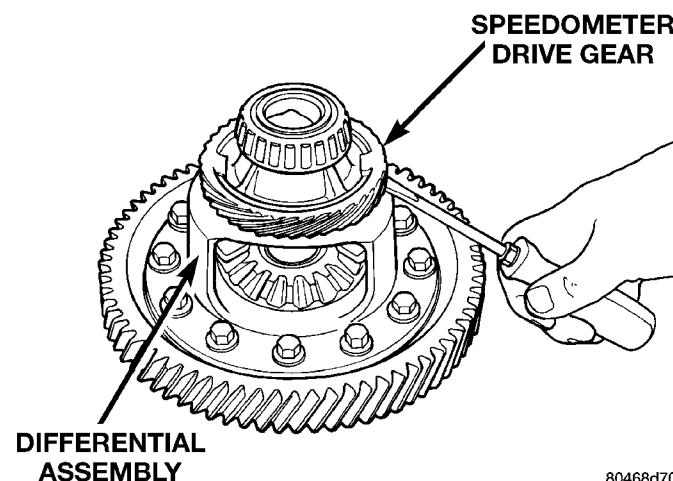
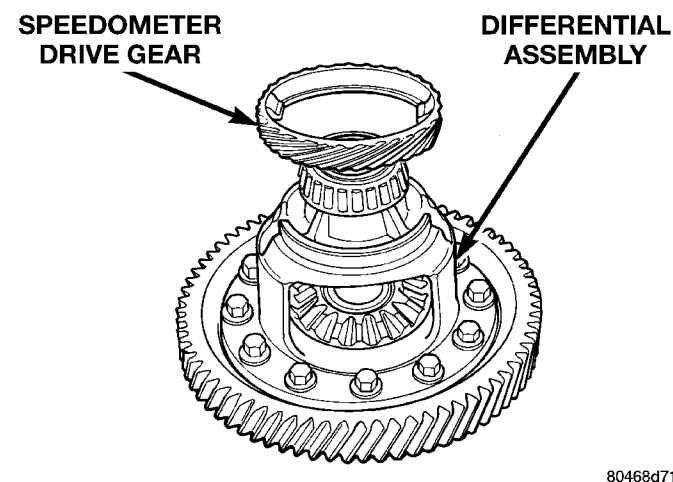

Fig. 103 Pry Off Speedometer Drive Gear
Fig. 104 Speedometer Drive Gear Removed
(1) Pry the plastic speedometer drive gear off of the differential case using a flat blade pry tool (Fig. 103) (Fig. 104).